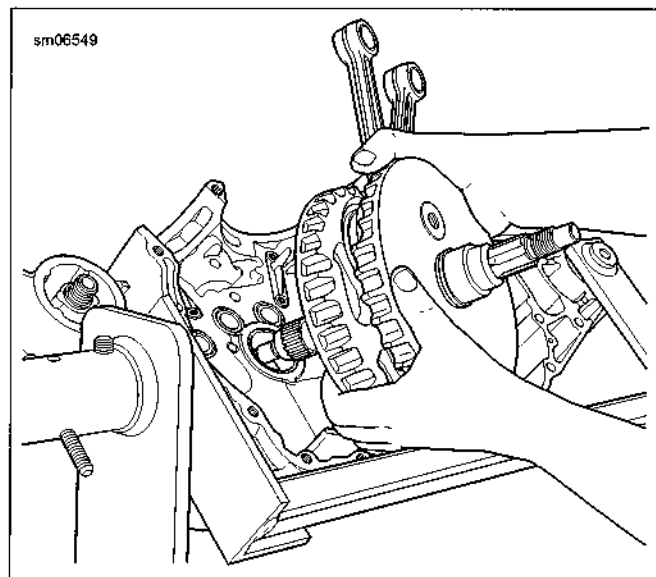

Figure 3-114. Installing Flywheels in Right Crankcase
- a. See Figure 3-114. Install flywheel assembly in right crankcase. Slide pinion shaft through outer race in right crankcase.